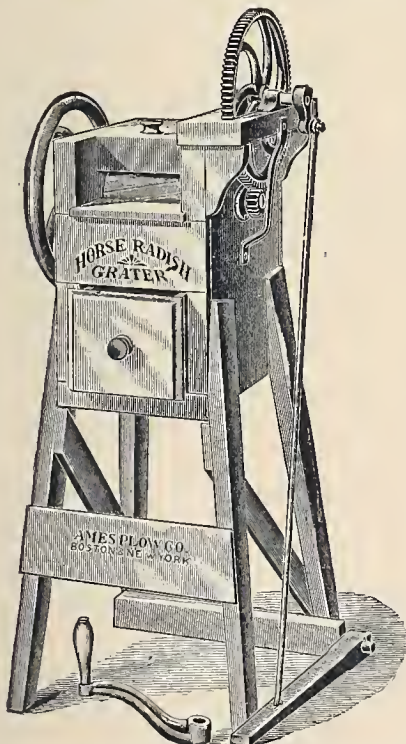

Fig. B 486.—Grater for Foot Power.
*The Horse Radish Grater and Cocoa-Nut Grater*, arranged for Foot Power, is illustrated at *Fig. B 486*. It will be noted that with these there is a balance wheel furnished which gives additional power and steadiness in running. There is also a crank sent with each so they can be operated by hand when desired.